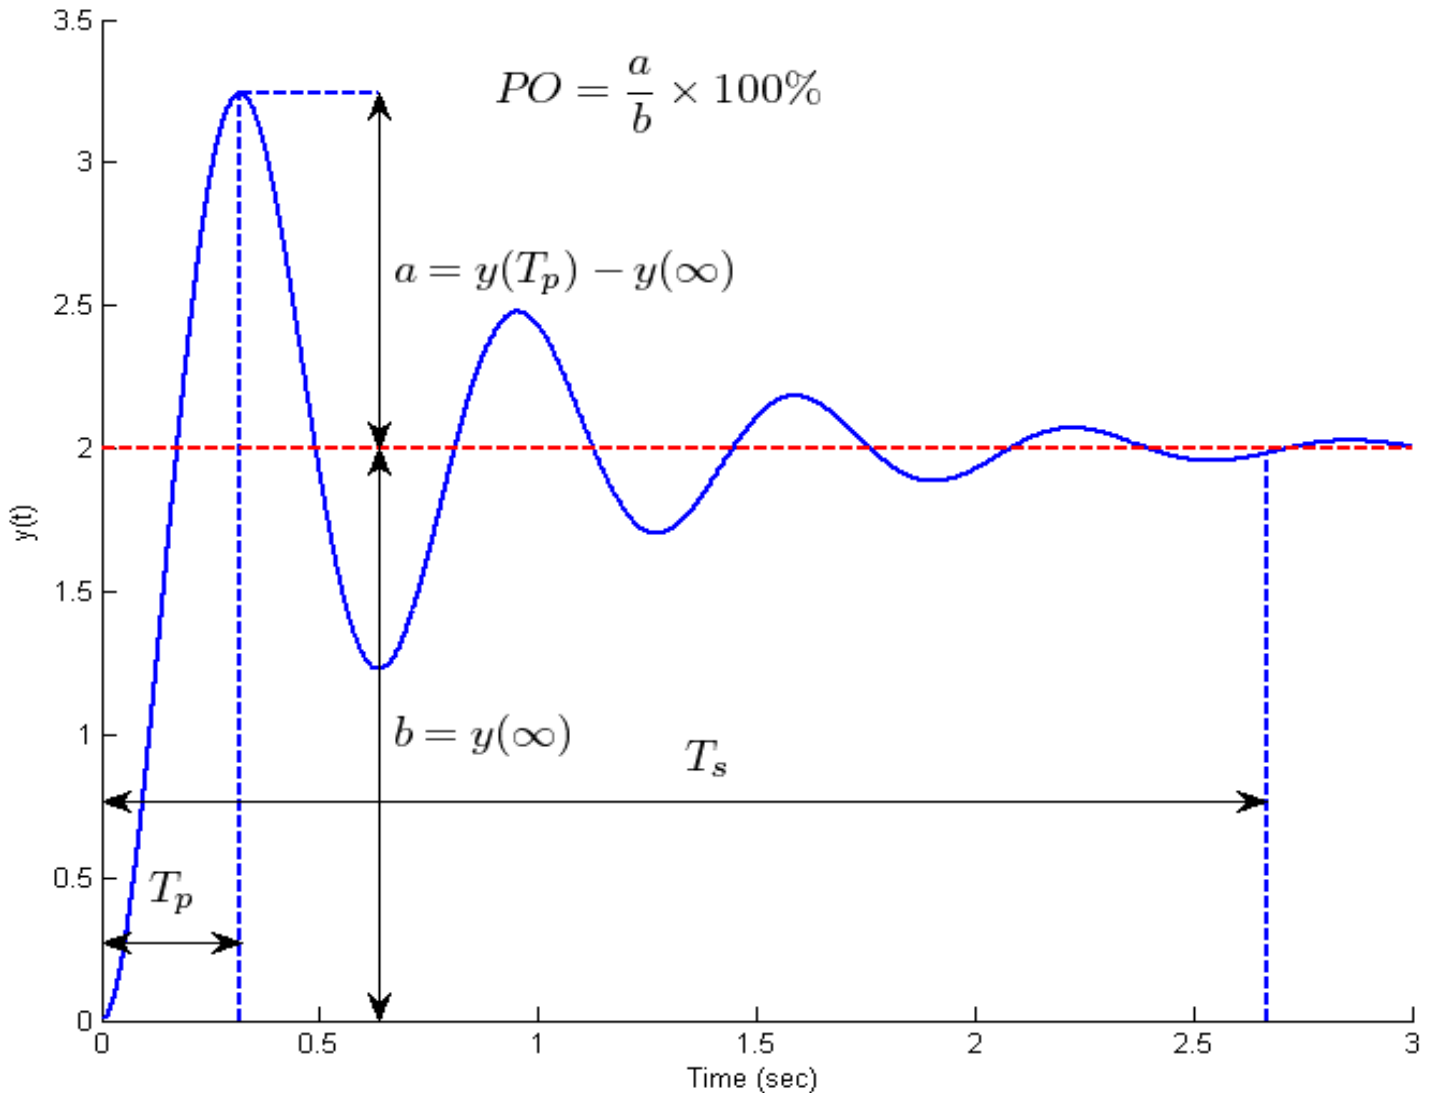

Figure 5. Important characteristics of the step response of an underdamped second order system.
In this part, we will look at the response of a second order circuit and how changing the damping ratio changes the characteristic of the output. The Figure 5 shows some of the important characteristics we usually measure for the step response for an underdamped second order systems. These include the Percent Overshoot (PO), the steady state value ($y(\infty)$), the Time to Peak (T_p), and the Settling Time (T_s). In this part of the lab we are mostly interested in the percent overshoot.